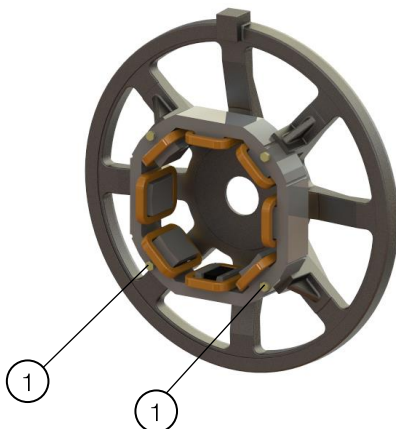

Figure 6.5: Tubular resistance support fixing points
4. With the cover disassembled, remove both lower fixing screw from the exciter stator, according to Figure 6.5.
Key of Figure 6.5: